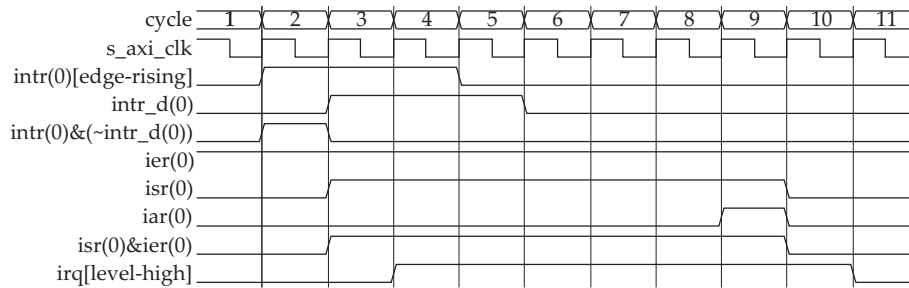

Figure 21: Input Intr - Edge Sensitive (Rising) and Output Irq - Level Sensitive (Active High)
11. Configured Input Interrupt (Intr) for Edge sensitive (rising) and Output Interrupt Request (Irq) to Level sensitive (active High) and is shown in Figure 21.